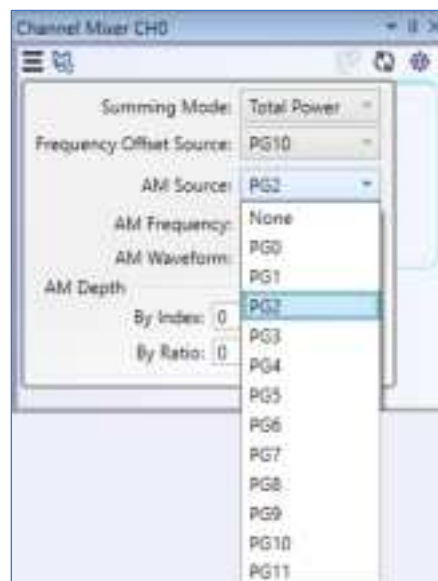

Figure 195: AM Source Drop Down Menu
- AM Source – Enables amplitude modulation with selection of a Phase Generator from the drop down menu, as shown in Figure 195, or disables AM insertion by selecting None from the drop down menu.